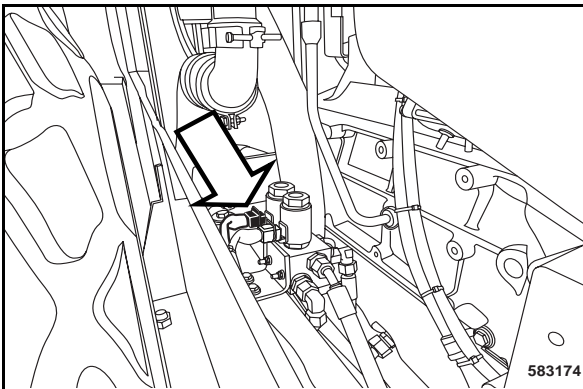

Fig. 131
- Pull the plug off the brake solenoid valve (Fig. 131).
- Reconnect the plug to the parking brake solenoid valve (Fig. 131).